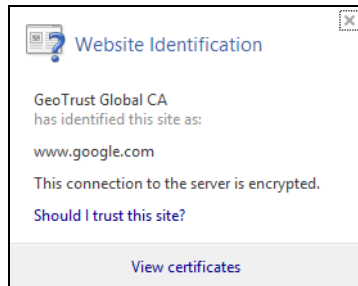

FIG. 67 Website Identification pop-up
3. The Website Identification pop-up opens (FIG. 67). Click **View Certificates**.